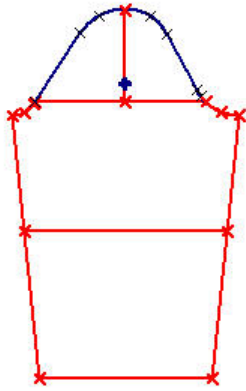

Figure 4. Select and delete objects
21. Select and delete the objects shown in Figure 4.